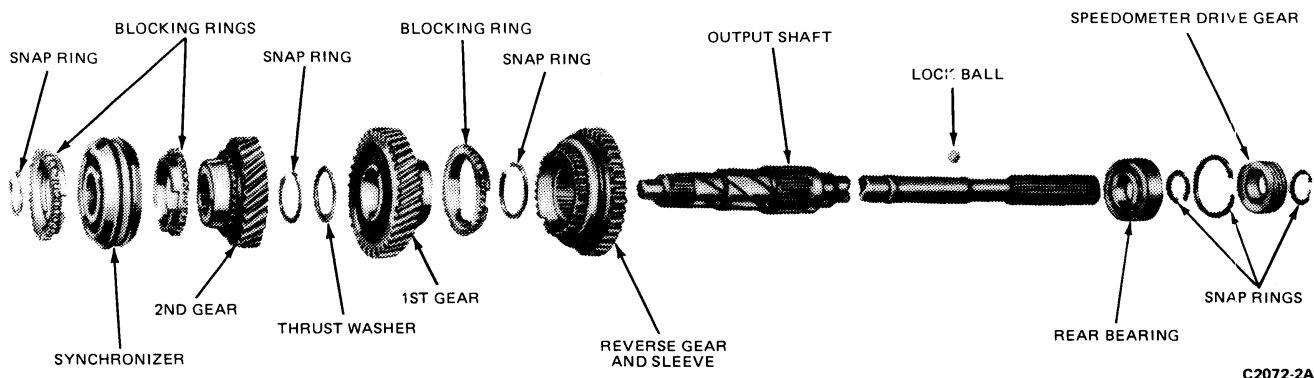

FIG. 19 Output Shaft—Disassembled
21. Remove the snap ring from the front of the output shaft, and slide the synchronizer and the second-speed gear (Fig. 19) off the shaft.